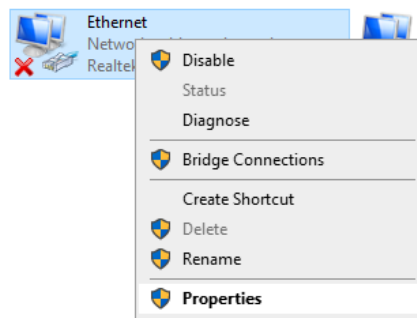

Fig.5
5. Click on "Change adapter options". A tab with all the network resources will appear (Fig.5).